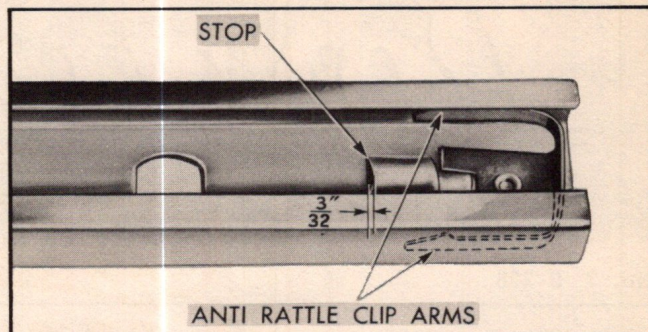

Fig. 3 Inner and Outer Channel Reassembled
7. On the outer channel, carefully swage the stop, downward slightly (see Fig. 3).
8. Reassemble the inner channel into the outer channel. Use a small screwdriver to lift the arms of the anti-rattle clip, shown in Fig. 3, inside the inner channel.